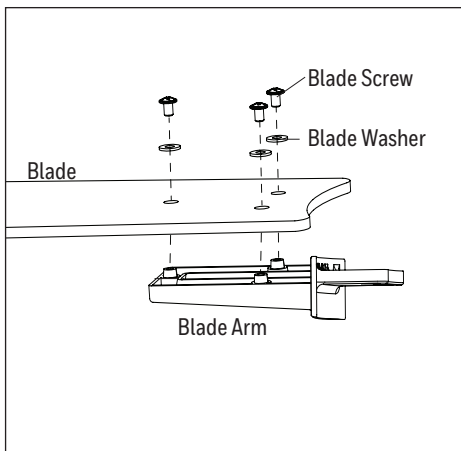

Figure 5.4
4. Partially insert the blade screws along with the blade washers through the blade and into the blade arm. Tighten each blade screw with a Phillips screwdriver (not included), starting with the one in the middle. Repeat this step for the remaining blades and blade arms (Figure 5.4).